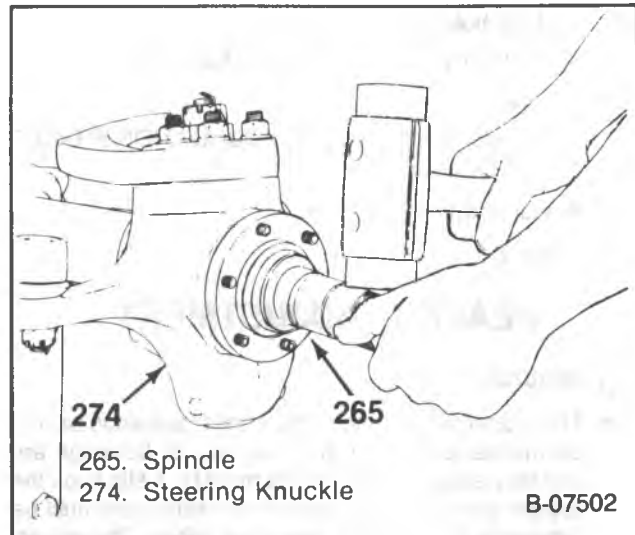

Figure 57 — Removing the Spindle
- Nuts (261) and plate (263) (V10/1500-20/2500 models).
- Nuts (261), washers (262), plate (263) and bracket (264) (V30/3500 models).
- Spindle (265) from the steering knuckle (274).
- Tap the end of the spindle with a plastic or rubber mallet to break it loose from the steering knuckle (274) (figure 57).